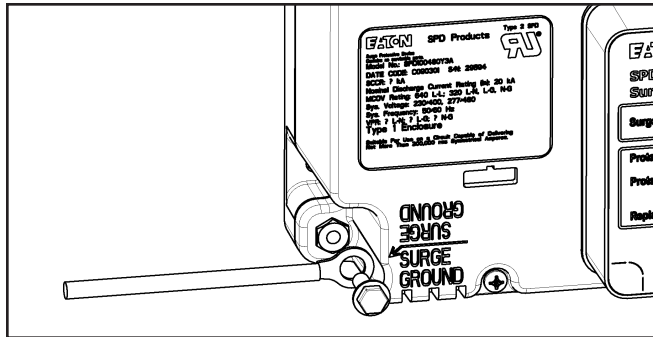

Figure 11. Ground Connection
- Connect the System Ground wire (green) to the SPD's Surge Ground connection using a ring terminal suitable for use with a #10 fastener and a #10-32 x 3/8" fastener (customer supplied). Tighten the Surge Ground connection to 4.1 Nm (36 in-lbs). If the system uses an isolated ground, connect the isolated ground wire to Surge Ground. There are two Surge Ground connection points provided on the SPD. Connect **only one** of them. See Figure 11.